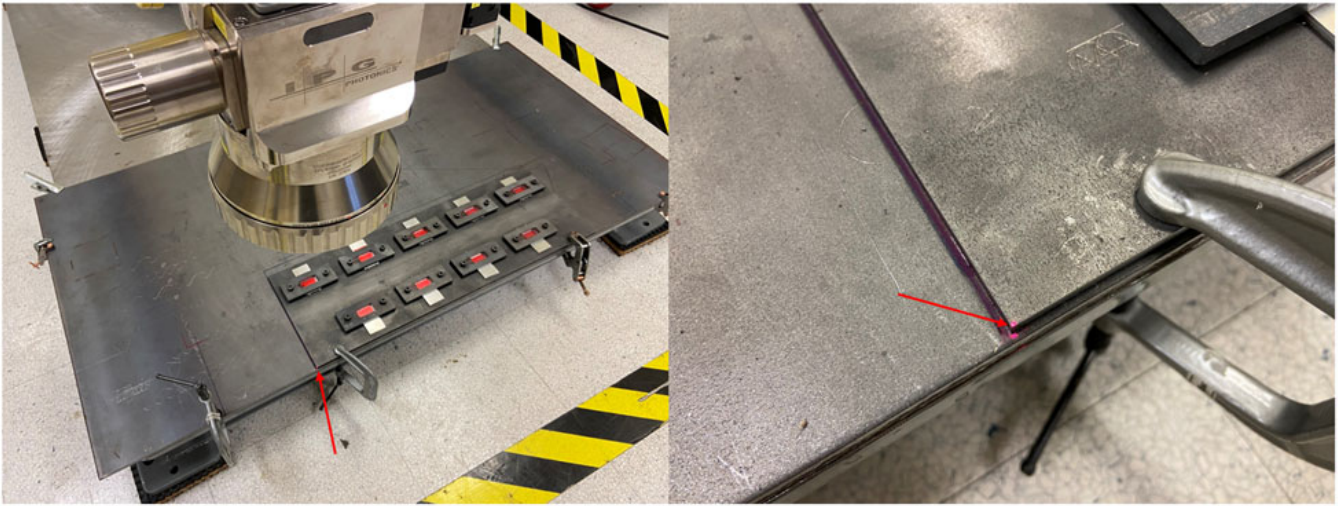

Figure 284: Jogging the Robot TCP to the Defined STL Calibration Point
8. Jog the robots TCP to the defined point on the STL model in the "real world." This will look similar to what is seen in Figure 284 (below).